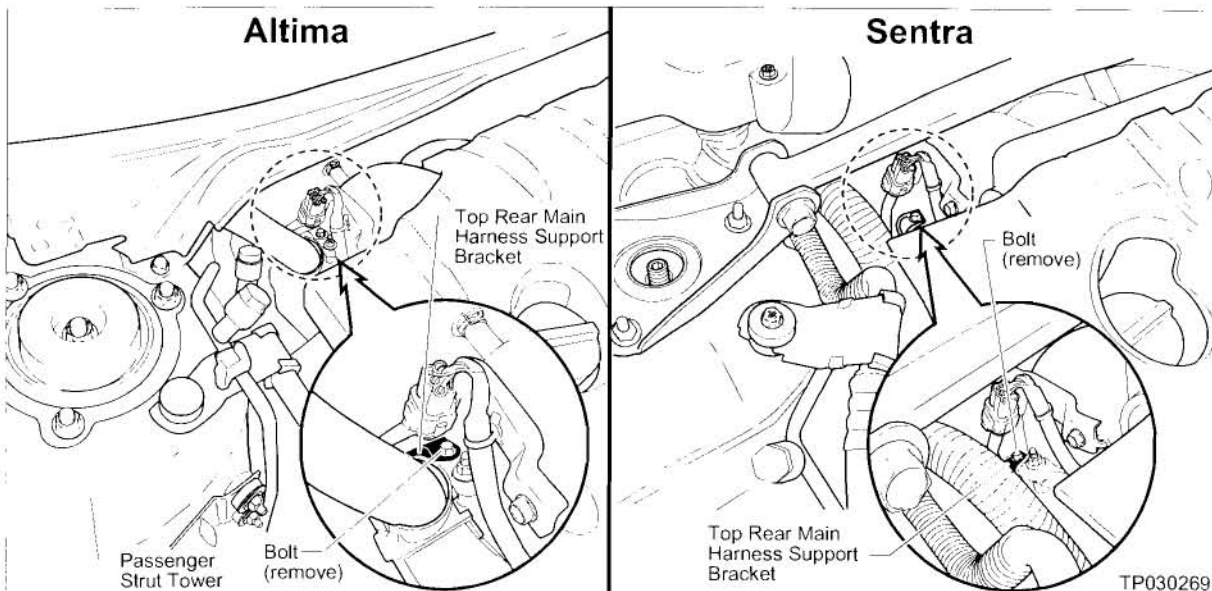

Figure F10
- Remove the bolt that secures the Top Rear Main Harness Support Bracket to the engine before engine removal (see Figure F10).